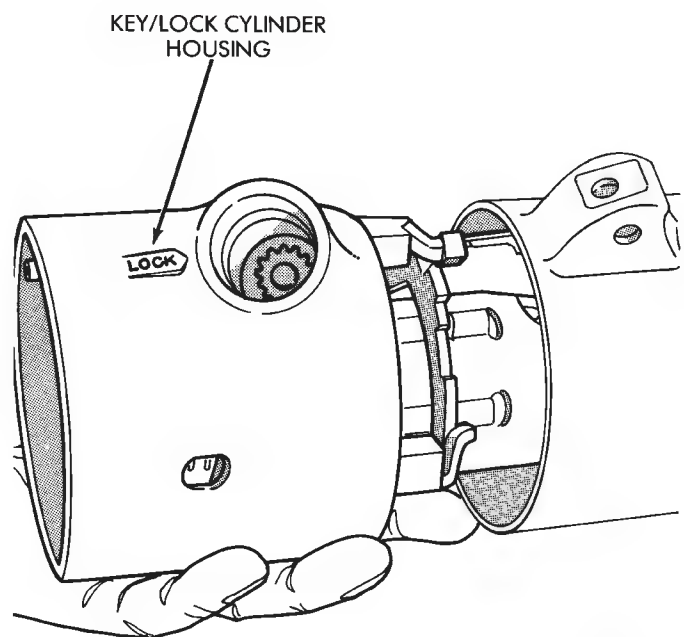

Fig. 9 Key/Lock Cylinder Housing
- (1) Remove the gear selector lever upper pivot pin and the selector lever.
- (2) Remove the upper bearing thrust washer.
- (3) Remove the four screws that attach the key/lock cylinder housing to the steering column jacket. Remove the housing (Fig. 9).